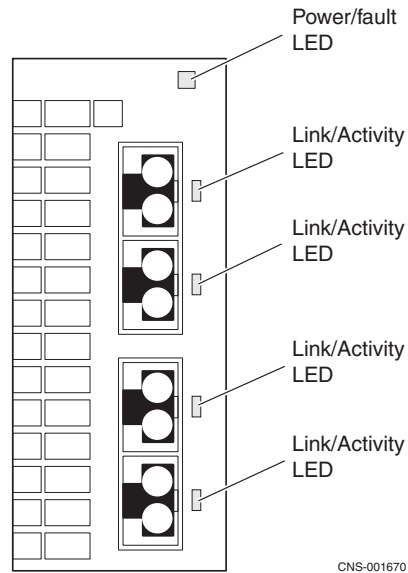

Figure 52 Four-port 8-Gb/s FC I/O module LEDs
The four-port 8-Gb/s Fibre Channel (FC) I/O module has two different types of status LEDs. Figure 52 shows the LEDs and Table 27 describes them.